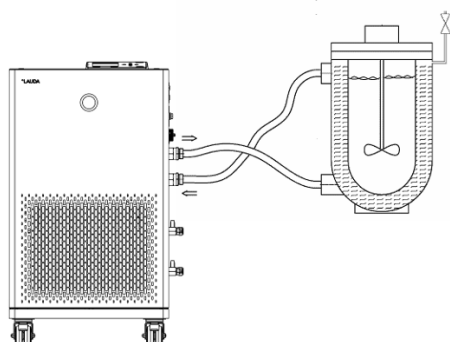

Fig. 29: Application with vent valve
- A vent valve Fig. 29 can significantly simplify the aeration process. For this purpose, periodically open the valve carefully and allow gas/air to escape until liquid escapes from the valve, and then close the vent valve again. Collect the liquid in a suitable container. Operate the valve again at regular intervals until no more air escapes.